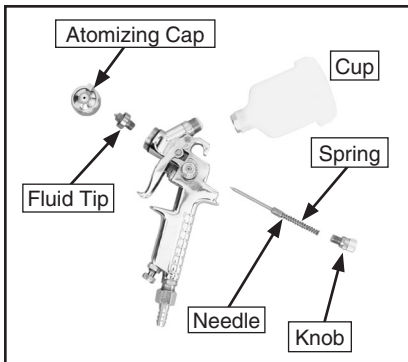

Figure 14. Disassembly for cleaning.
5. Unscrew the atomizing cap and the fluid tip. The fully disassembled gun should look like **Figure 14**.